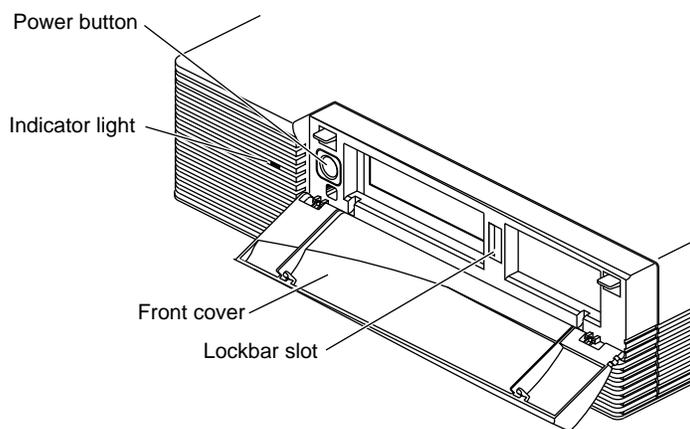

Figure 1-2 Turning Off the Power
2. Open the front cover, as shown in Figure 1-2.
3. Press and release the power button on the front of the system to turn off the power. The power indicator light turns off. See Figure 1-2.